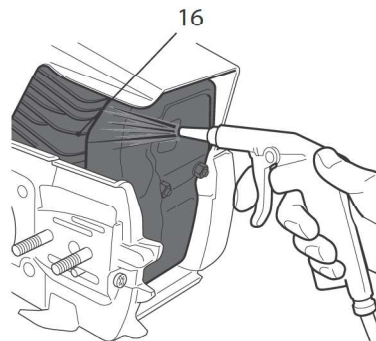

Fig. 56
- > Dust clogging between the cylinder fins (16) will cause overheating of the engine. Periodically check and clean the cylinder fins (16) with air jet. (Fig. 56).